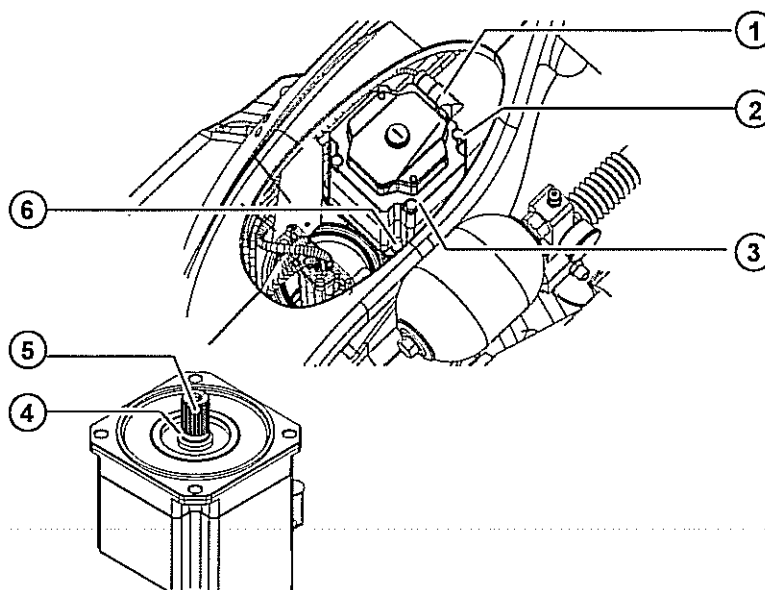

Fig. 12-2: Installing motor A1
1. Remove all protective coatings and oil from new motor A1, if applicable (>>> Fig. 12-2).